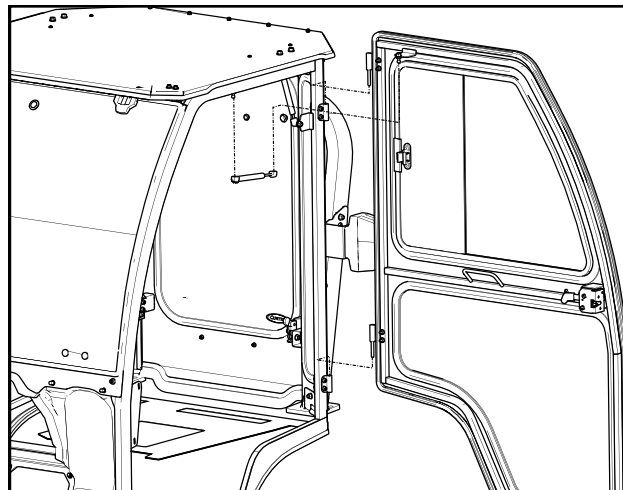

Fig. 19.1 (Door Installation)
**19.1** Grease the hinge pins and re-install the doors into their respective hinge sleeves located on the side frames. See Fig. 19.1